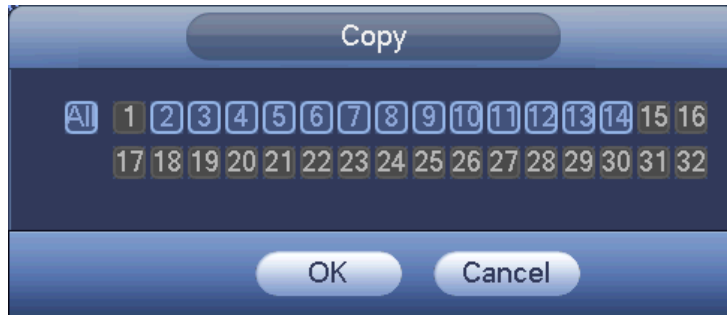

Figure 3-47
- Copy: After you complete the setup, you can click Copy button to copy current setup to other channel(s). You can see an interface is shown as in Figure 3-47. You can see current channel number is grey. Please check the number to select the channel or you can check the box ALL. Please click the OK button in Figure 3-47 and Figure 3-41 respectively to complete the setup. Please note, once you check the All box, you set same encode setup for all channels. Audio/video enable box, overlay button and the copy button is shield.
Copy function allows you to copy one channel setup to another. After setting in channel 1, click Copy button, you can go to interface Figure 3-47. You can see current channel name is grey such as channel 1. Now you can select the channel you want to paste such as channel 5/6/7. If you want to save current setup of channel 1 to all channels, you can click the first box “ALL”. Click the OK button to save current copy setup. Click the OK button in the Encode interface, the copy function succeeded. Please note, if you select ALL in Figure 3-47, the record setup of all channels are the same and the Copy